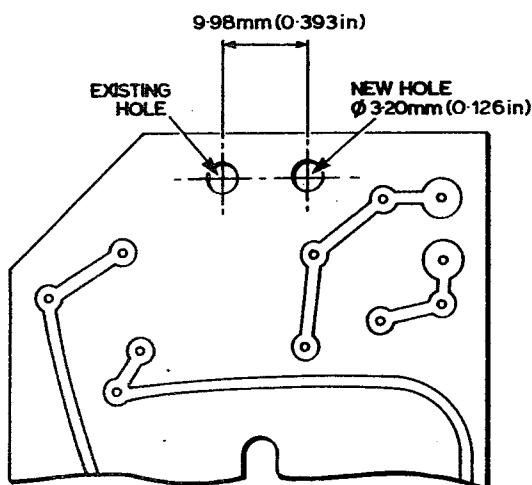

FIG2
(5) Drill out three existing holes, Ref Y, to 1.95 mm diameter and fit Terminal Studs (Qty 3), Part No 999/4/01135/004. Studs to be swaged and wired to track using Tinned Copper Wire 0.5 mm diameter and Solder, Multicore 22 SWG (See sketch).
(6) Remove Board Part No 419/1/09599. Using white ink re part number to 419/6/41947/000. Code reference identity of new Terminal Studs 41, 42, 43, alongside each as shown. Using varnish, reprotect exposed areas.
(7) Refer to Drawing Plessey / 2635 Fig 2. Rework Board 'B' Part No 700/1/12711 by drilling hole 3,20 mm diameter at position shown. Recode Board as 419/1/41975/000.
(8) Using Equipment Wire 19/0.15 mm PTFE covered Pink produce new Leads as follows: